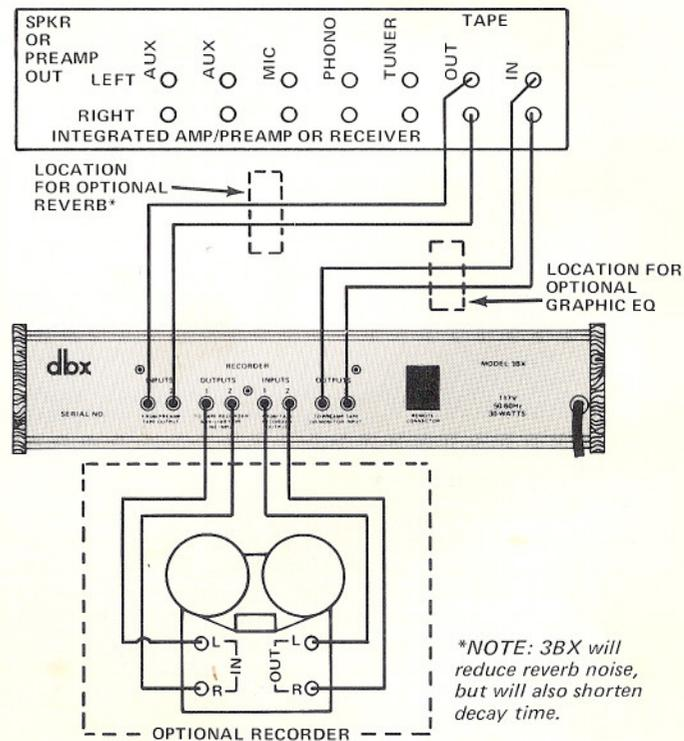

Fig. 8 — How to Connect the 3BX if Your Receiver, Preamp or Integrated Amplifier/Preamp has a Tape Monitor Loop
2. If you do not have a tape recorder connected as shown in Figures 8 and 9, leave the **SOURCE**, and the **PRE** buttons depressed all the time.